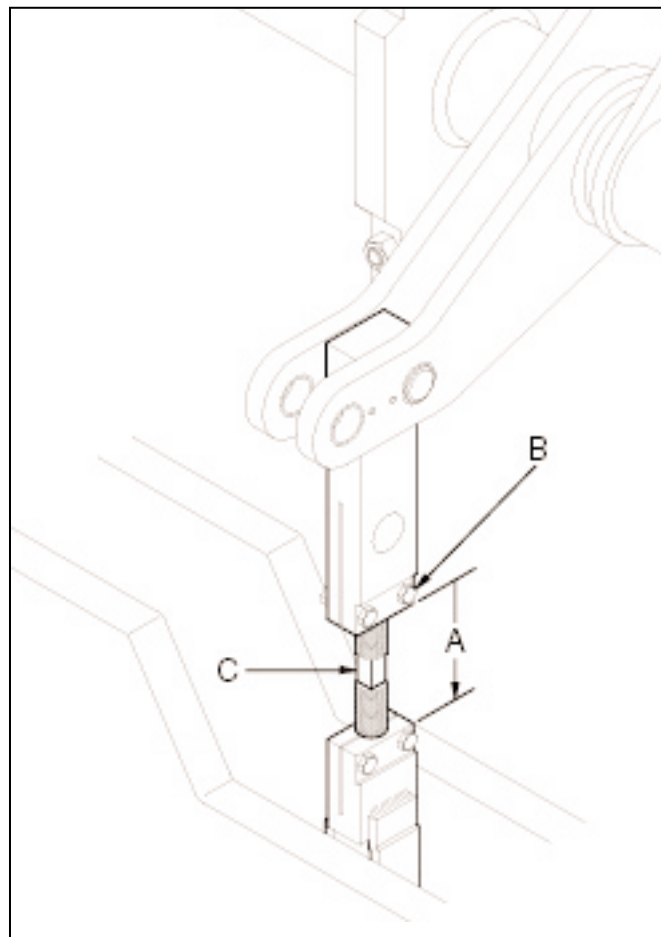

Figure 4.54 ADJUSTING STRIPPER HEAD LINKS
4.4.15 Adjust the stripper head links to a dimension of **3 5/8" [92mm]** (A) between link ends (see figure 4.54). To do so, loosen the two bolts (B) and turn up or turn down (C) with a wrench.